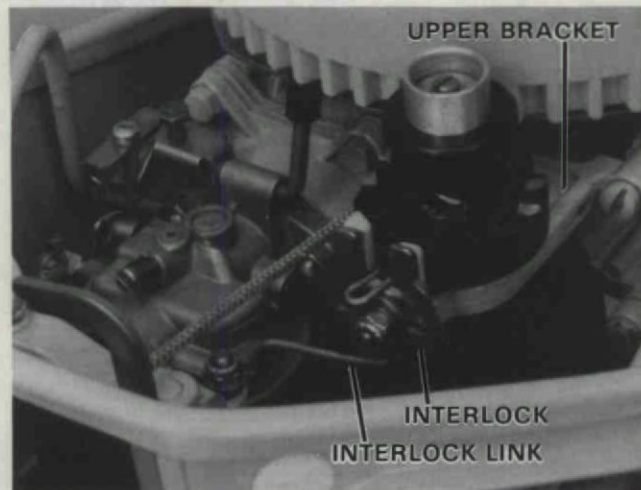

Figure 4. Removing Interlock.
8. Remove two (2) hex screws securing upper bracket. Remove stop nut, washer, and two (2) O rings securing interlock connecting link to gear shift shaft lever. Remove upper bracket with remainder of interlock assembly. Figure 4.